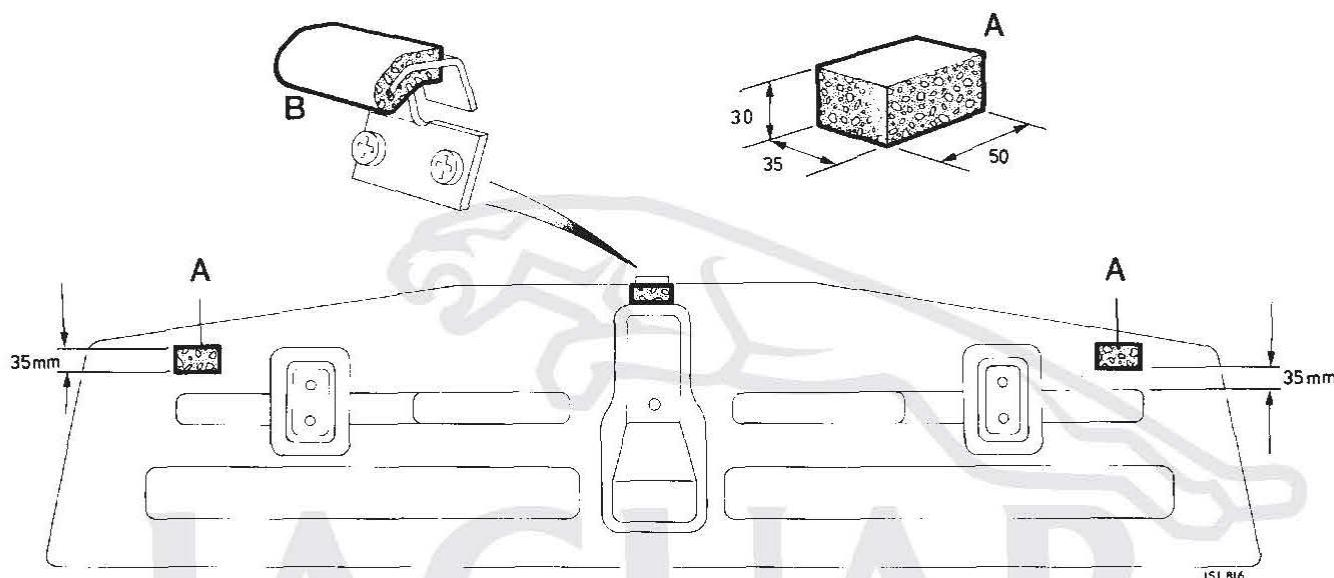

Fig 11
Rattles from the rear parcel shelf trim panel have been eliminated from VIN 527904 when a modification was introduced which incorporates the use of anti-rattle foam pads at three locations. (Fig 11).
- 2 Refer to (Fig 11) to identify the exact locations for the fitment of the self-adhesive anti-rattle foam pads.
- 3 Fit the pads Part No BDC 6468 at the locations (A Fig 11).
- 4 Fit the pad Part No BDC 6469 to the rear trim panel mounting point. (B Fig 11).